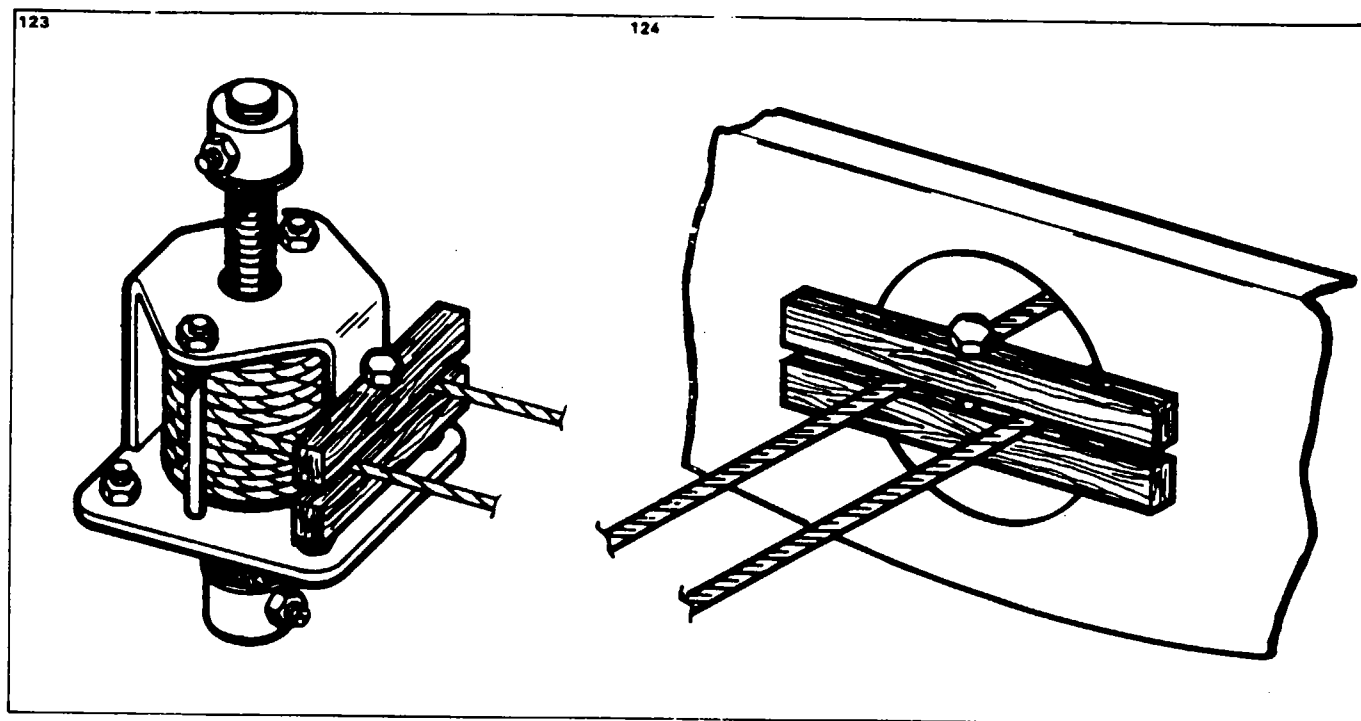

Figure 27-6. Methods of Blocking Trim Cables
RIGGING AND ADJUSTMENT OF AILERON CONTROLS. (Refer to Figure 27-6.)
9. Block the trim cables at the screw assembly within the control pedestal and within the wing at station 96.50, to prevent the cables from unwrapping from their drums, by one of the methods shown in Figure 27-6. (If the trim assembly within the wing is also to be removed, then remove the access plates at wing station 171.00 and block the cables at the trim screw assembly.)